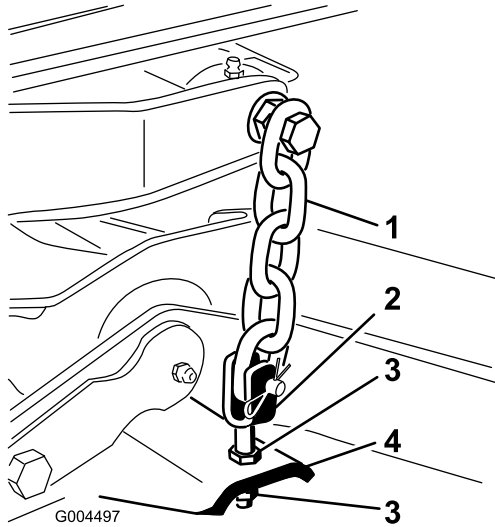

Figure 77
- Adjust the jam nuts securing the rear deck yokes/chains to raise the rear of the deck so that the blade pitch is set to 5/16 inch (8 mm) (Figure 77).